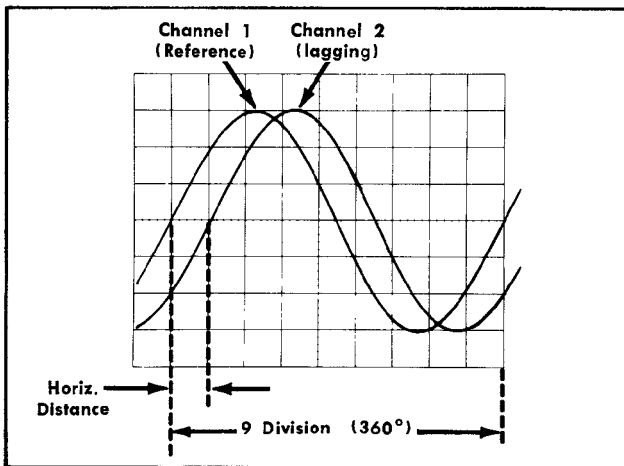

Fig. 2-4. Measuring phase shift.
5. Turn the Variable time/division control counterclockwise until 1 cycle of the reference signal (Channel 1 signal) occupies exactly 9 divisions horizontally. Each division of the graticule represents 40° of the cycle ($360^\circ \div 9 \text{ divisions} = 40^\circ/\text{division}$. See Fig. 2-4).
For example, with a horizontal distance of 1.1 divisions as shown in Fig. 2-4., the phase difference would be: